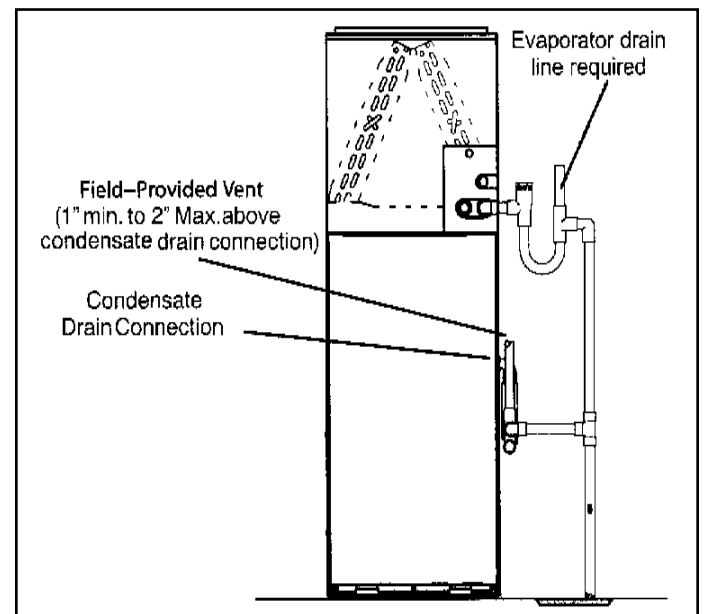
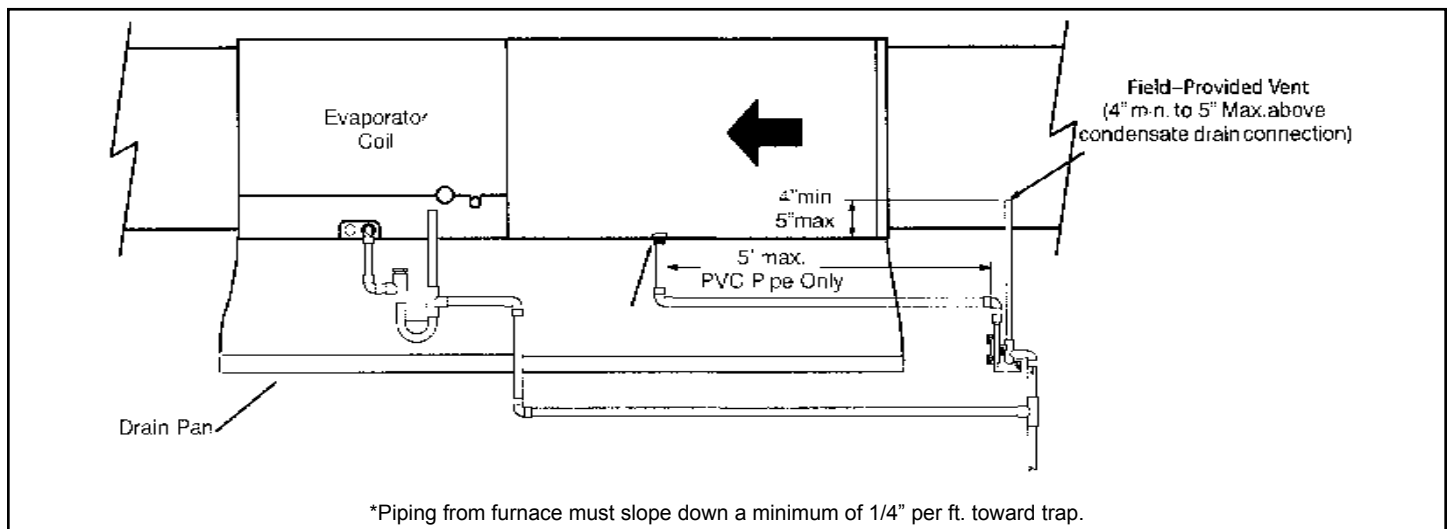

Figure 57. Evaporator Coil Using a Common Drain
Figure 58. Evaporator Coil Using a Common Drain
5. Figure 54 and Figure 55 show the furnace and evaporator coil using a separate drain. If necessary the condensate line from the furnace and evaporator coil can drain together. See Figure 57 and Figure 58.